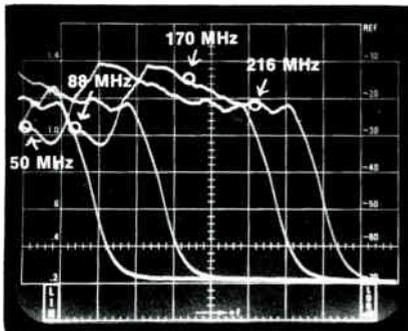

Figure 5
9) The Signal Level Meter can be used to get a rough idea of where various frequencies are located in the trace. The frequency dial selected the trigger start point. As indicated in Figure 5, 170 MHz selected on the SLM, when applied to the first